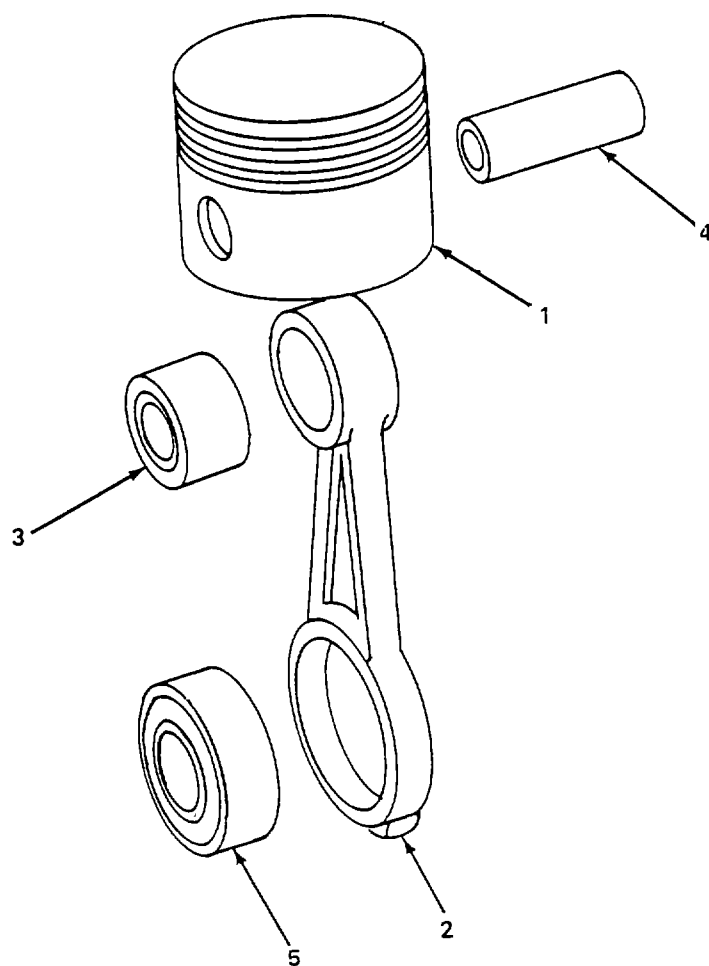

Figure 6-9. Third Stage Crosshead and Connecting Rod Assembly, Repair.
- (1) Install first stage cylinder (para. 6-8).
- (2) Install second stage cylinder (para. 6-10).
- (3) Install fanwheel (para. 5-36).
b. Repair. (figure 6-9)
- (1) Remove third stage crosshead and connecting rod assembly (para. a.).